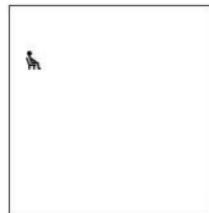

Fig. 6: Start screen
⇒ The blood pressure monitor switches on automatically, carries out a display test and displays the start screen. (see Fig. 5 and Fig. 6).
⇒ The display shows the start screen (Fig. 6).
⇒ The display shows the start screen(Fig. 6).
- ⇒ The start screen will be displayed (see fig. 6).